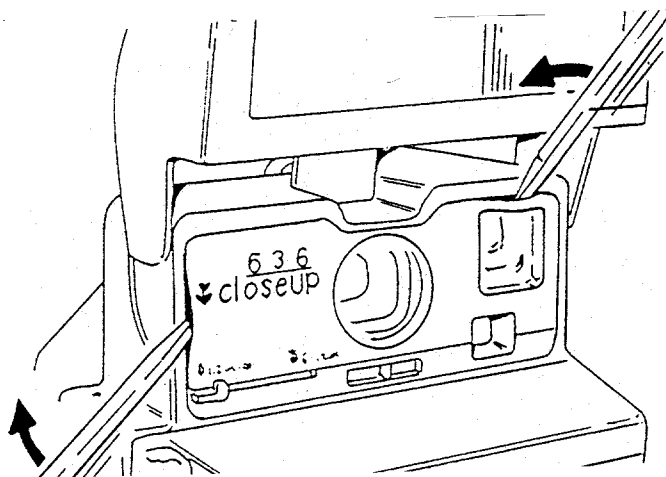

Fig. 9 Removing the Panel (Front Plate) from the Apron
9. Disassemble the Apron using a soldering aid. First, remove the Panel containing the Close Up Lens and Trim Button Assemblies. Release the tabs at A and B (Fig. 9) which hold the Panel to the Apron, then tilt out the top and lift it out, freeing lip along the bottom edge.